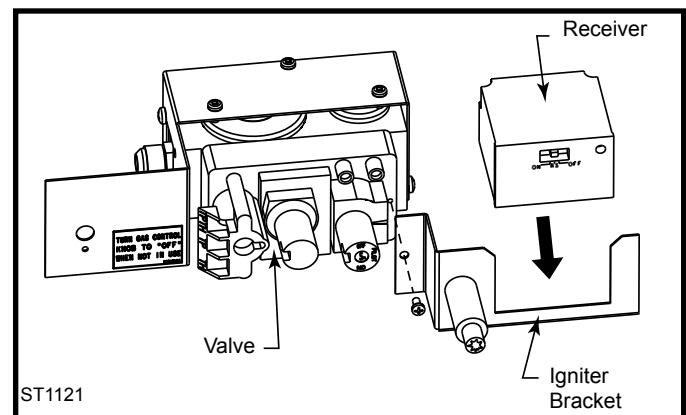

Fig. 54 Install receiver.
1. Slide receiver into igniter bracket as shown in Figure 54.